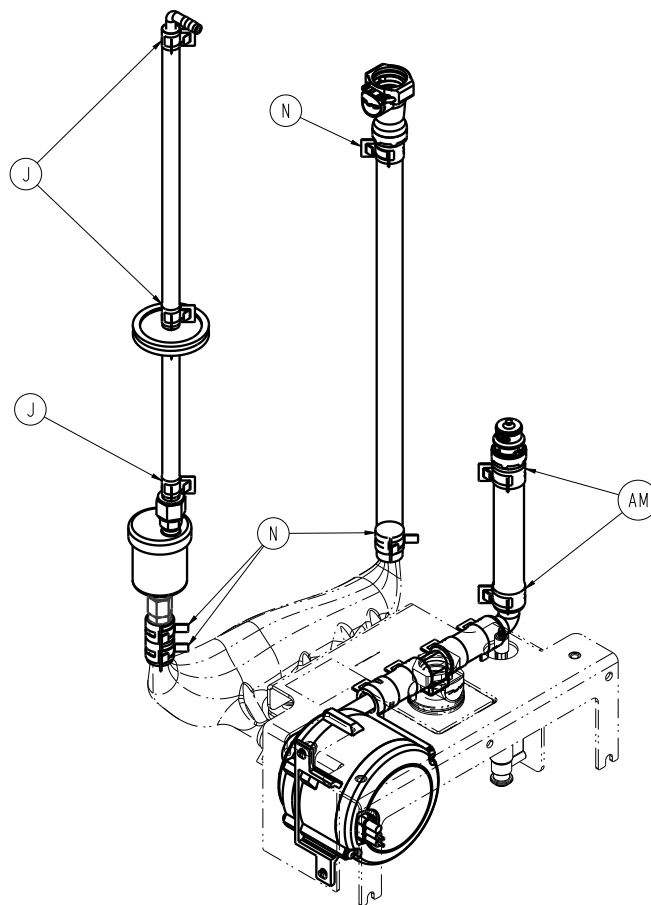

Figure 18 – Fluid assembly bracket
6. Using needle nose pliers, remove the two hose clamps (N) that secure the tubing to the reservoir (Figure 18).